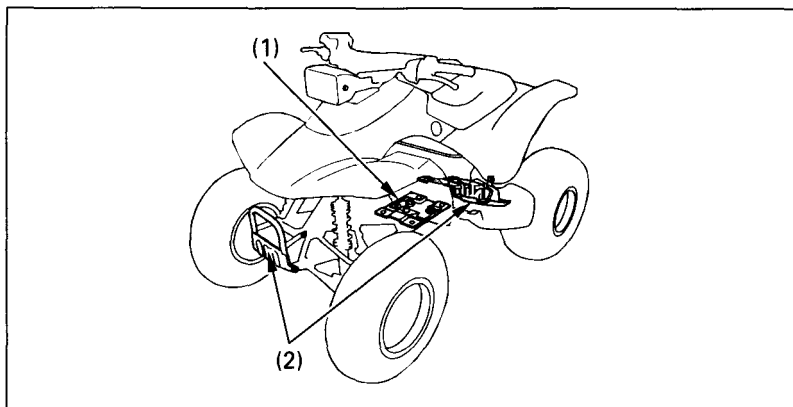

Fig. 4-33 (1) Engine guard
The engine guard (Fig. 4-33) protects the engine crank case. The skid plates (2) protect the frame/lower arm, the drive components and the rear brake. Check the guard and plates for cracks, damage or looseness at intervals shown in the Maintenance Schedule (page 77–78).